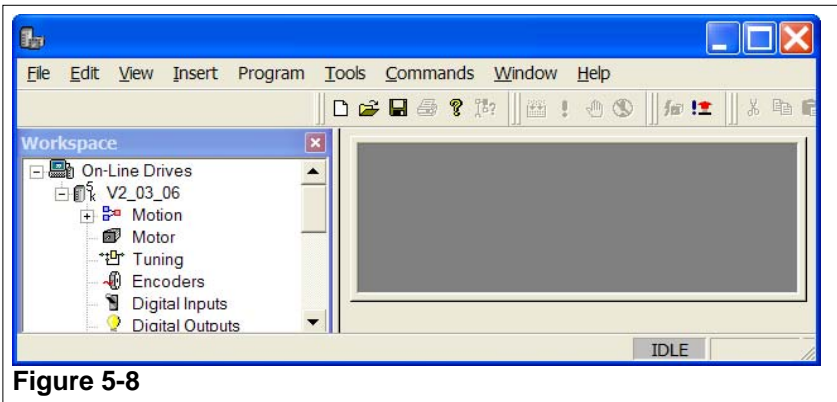

Figure 5-8
- Step 6. Software is uploaded and listed under On-Line Drives. (Figure 5-8)